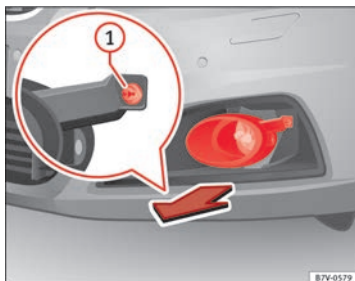
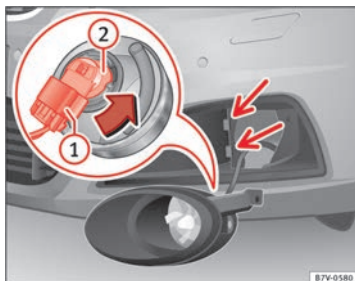

Fig. 209 On the right-hand side of the front bumper: Removing the headlights
Fig. 210 Changing the bulbs in the headlights
2. Pull the cover forwards, in the direction of the arrow ⇒ Fig. 209.
3. Unscrew the attachment screw ① using the screwdriver from the vehicle tool kit ⇒ page 323.
4. Tilt the headlight slightly forward and extract it from its lateral attachments ⇒ Fig. 210 (small arrows).
5. Release the connector ① and remove it.
6. Rotate the lamp holder ② to the left all the way, in the direction of the arrow, and pull it out backwards with the bulb.
9. Insert the connector ① on the lamp holder ②. The connector must audibly click into place.
10. Place the headlight into its position ⇒ Fig. 210 (small arrows) and tilt it backwards.
11. Tighten the attachment screw ⇒ Fig. 209 ① using the screwdriver.
12. Replace the cover on the bumper ⇒ Fig. 209.